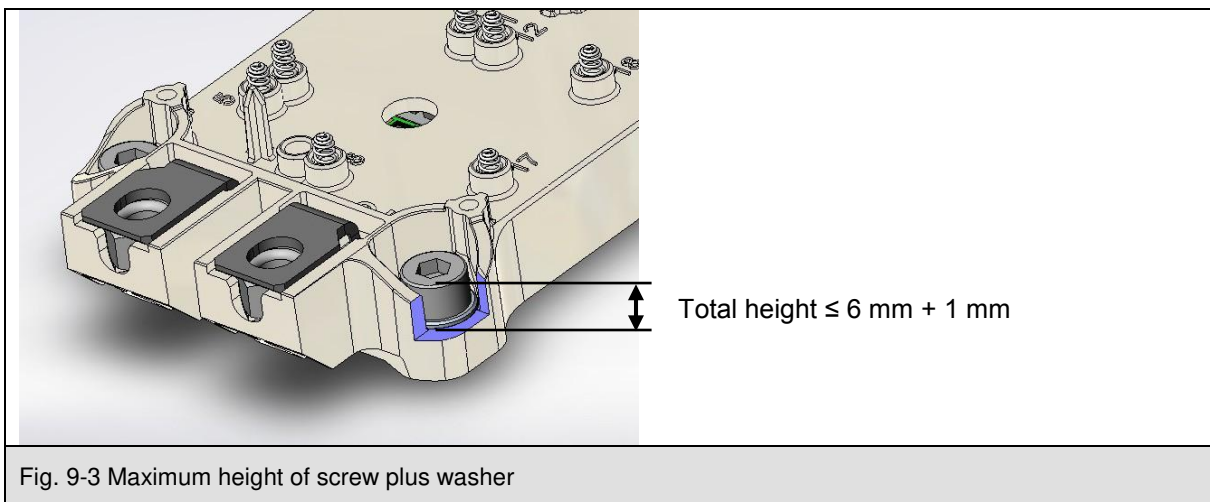

Fig. 9-3 Maximum height of screw plus washer
- ◆ To comply with the creepage and clearance distances, the height of the screw and washer must not exceed $6 \text{ mm} + 1 \text{ mm}$. Refer also to Fig. 9-3.